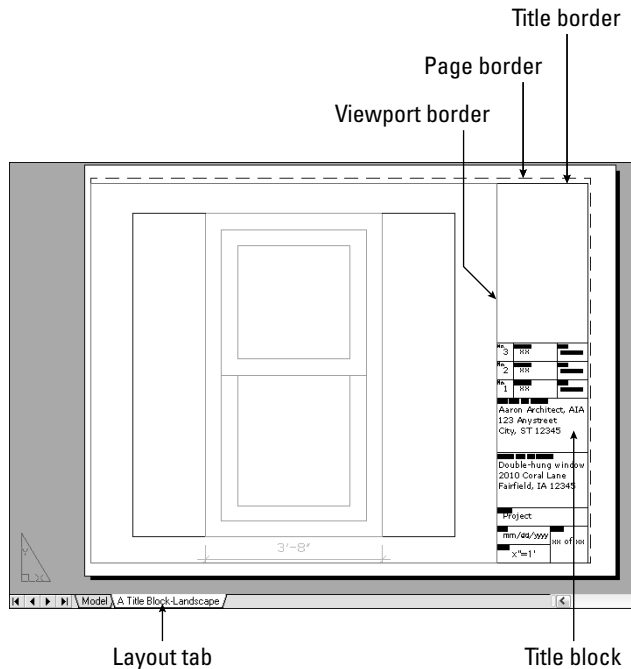

**Figure QS-5:** The window with a title block as it appears on the Layout tab.
21.  To prepare for printing, click the Layout tab, A Title Block-Landscape, at the bottom of the drawing area. If you don't see any tabs, click the A Title Block-Landscape button at the right end of the row of buttons on the status bar below the drawing area. You then see the window inside a title block and border, as shown in Figure QS-5. This title block and border comes with the template to help you easily prepare the drawing for printing. (Chapter 17 explains how to lay out and print/plot a drawing.)
22. To set the scale for printing, click the magenta viewport border (labeled in Figure QS-5). Choose Tools ⇨ Palettes ⇨ Properties. In the Properties palette, click the Standard Scale item. (To see this item, you may have to scroll down in the Properties palette or